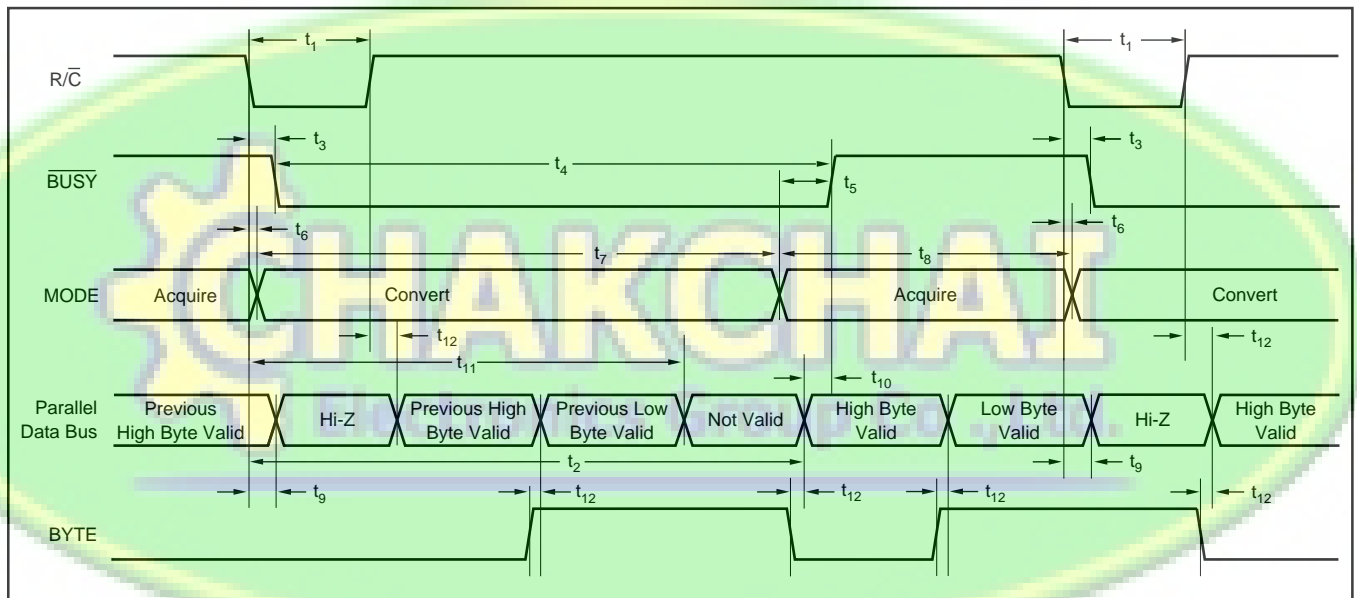

FIGURE 2. Conversion Timing with Parallel Output ($\overline{\text{CS}}$ and DATACLK tied LOW, $\overline{\text{EXT/INT}}$ tied HIGH).
The ADS7807 will begin tracking the input signal at the end of the conversion. Allowing 25 μ s between convert commands assures accurate acquisition of a new signal. Refer to Tables II and III for a summary of \overline{CS} , R/\overline{C} , and $BUSY$ states, and Figures 2 through 6 for timing diagrams.
NOTE: (1) See Figures 2 and 3 for constraints on data valid from conversion 'n - 1'.
After conversion 'n' is completed and the output registers have been updated, $\overline{\text{BUSY}}$ (pin 24) will go HIGH. Valid data from conversion 'n' will be available on D7-D0 (pins 9-13 and 15-17). $\overline{\text{BUSY}}$ going high can be used to latch the data. Refer to Table V and Figures 2 and 3 for timing constraints.
After conversion 'n' has been initiated, valid data from conversion 'n - 1' can be read and will be valid up to $12\mu\text{s}$ after the start of conversion 'n'. Do not attempt to read data beyond $12\mu\text{s}$ after the start of conversion 'n' until $\overline{\text{BUSY}}$ (pin 24) goes HIGH; this may result in reading invalid data. Refer to Table V and Figures 2 and 3 for timing constraints.